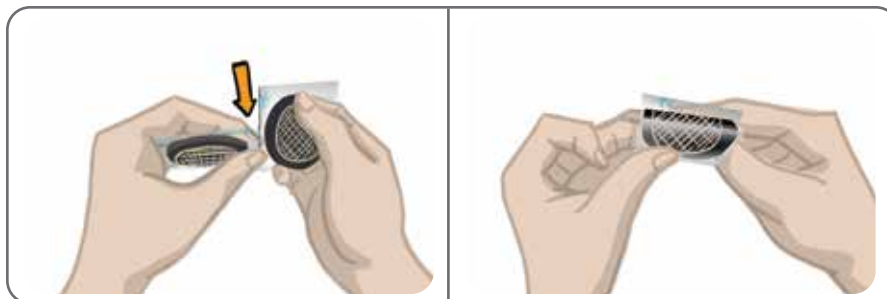

Figure 8-2: Separating the Hydrogel Electrodes and Splitting the Two-Piece Covers
2. Separate the two new hydrogel electrodes along the perforation. See Figure 8-2.
3. Split the two-piece covers on each electrode and discard them. See Figure 8-2.